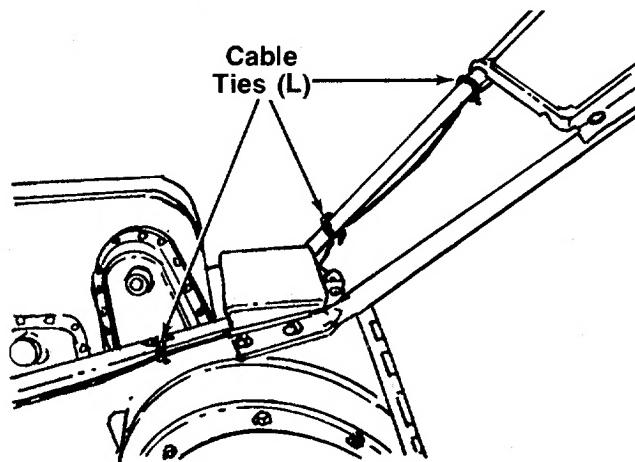

**FIGURE 10.**
3. With the clutch lever released (in the "up" position), adjust the bottom nut at the cable bracket so there is only a slight amount of slack in the control wire. Tighten the upper nut against the bracket. Squeeze the clutch lever against the handle. The control wire should now be straight. See figure 10.